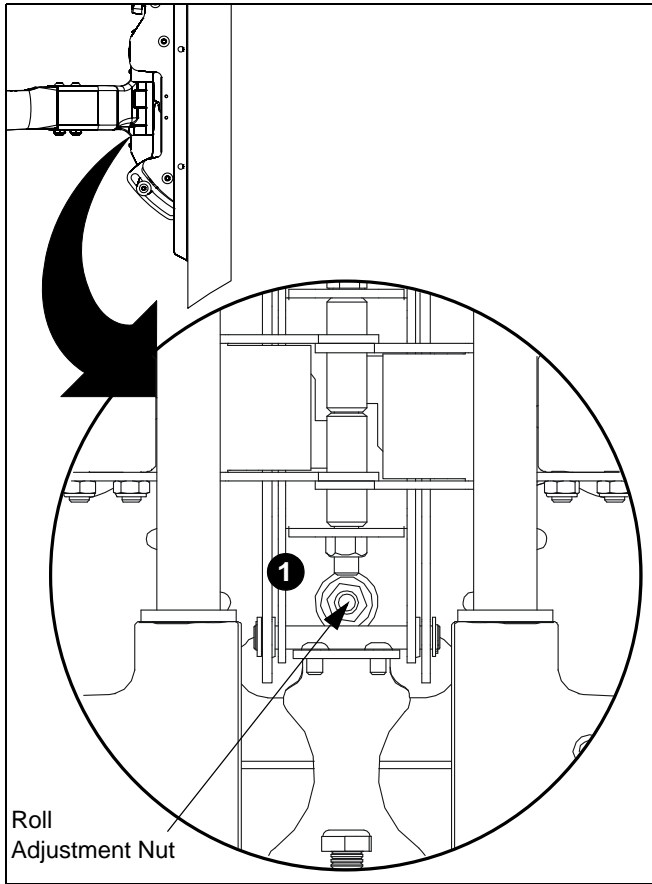

Figure 10
1. Using a 9/16" wrench (not provided), slightly tighten or loosen lateral Roll tension adjustment nut. (See Figure 10)